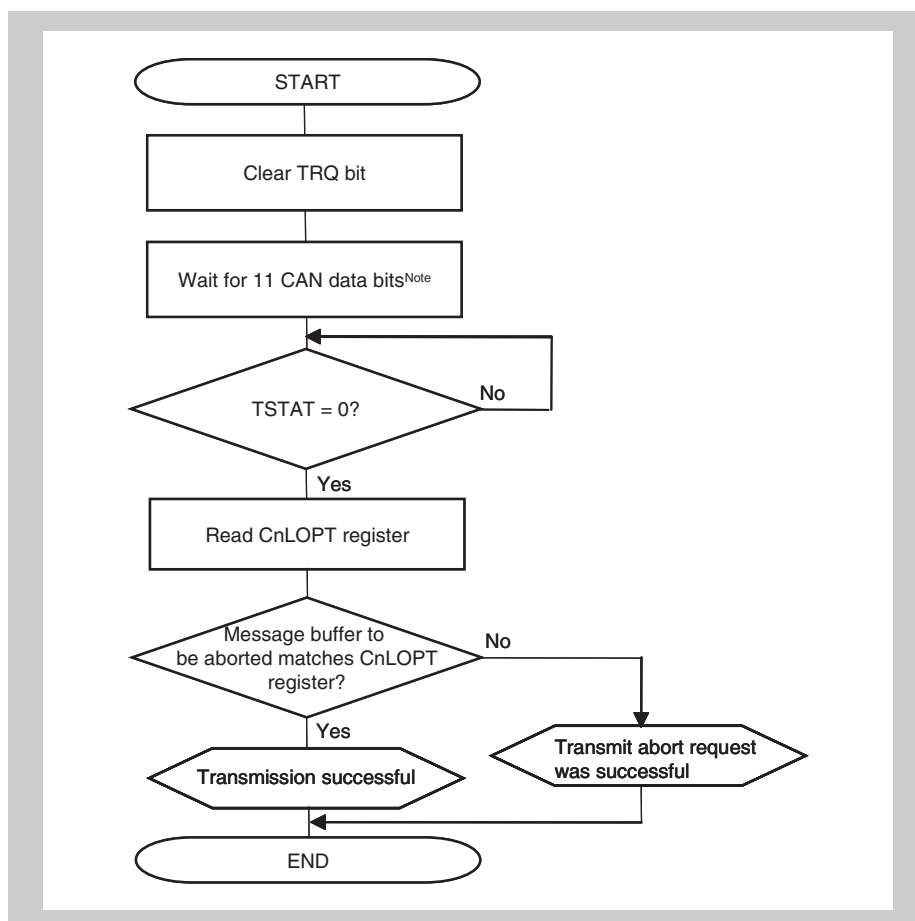
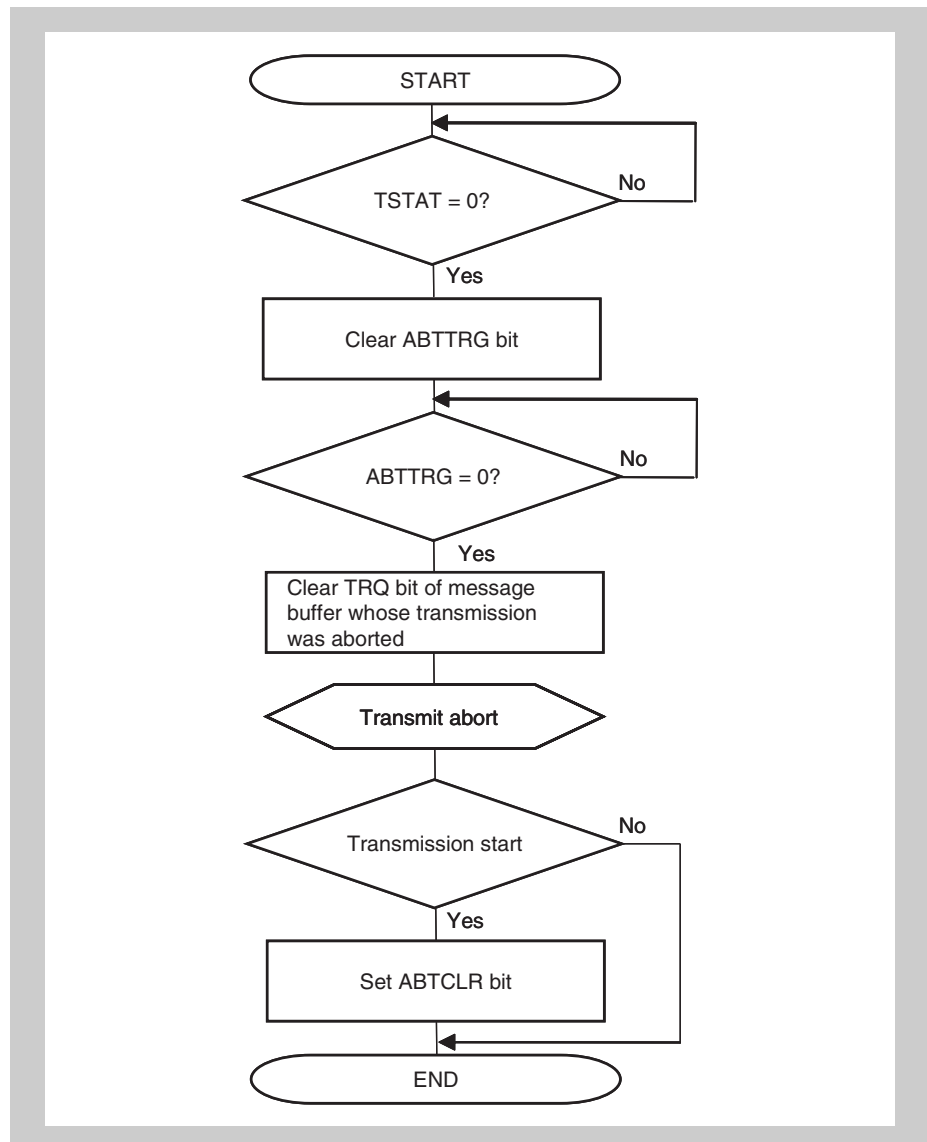
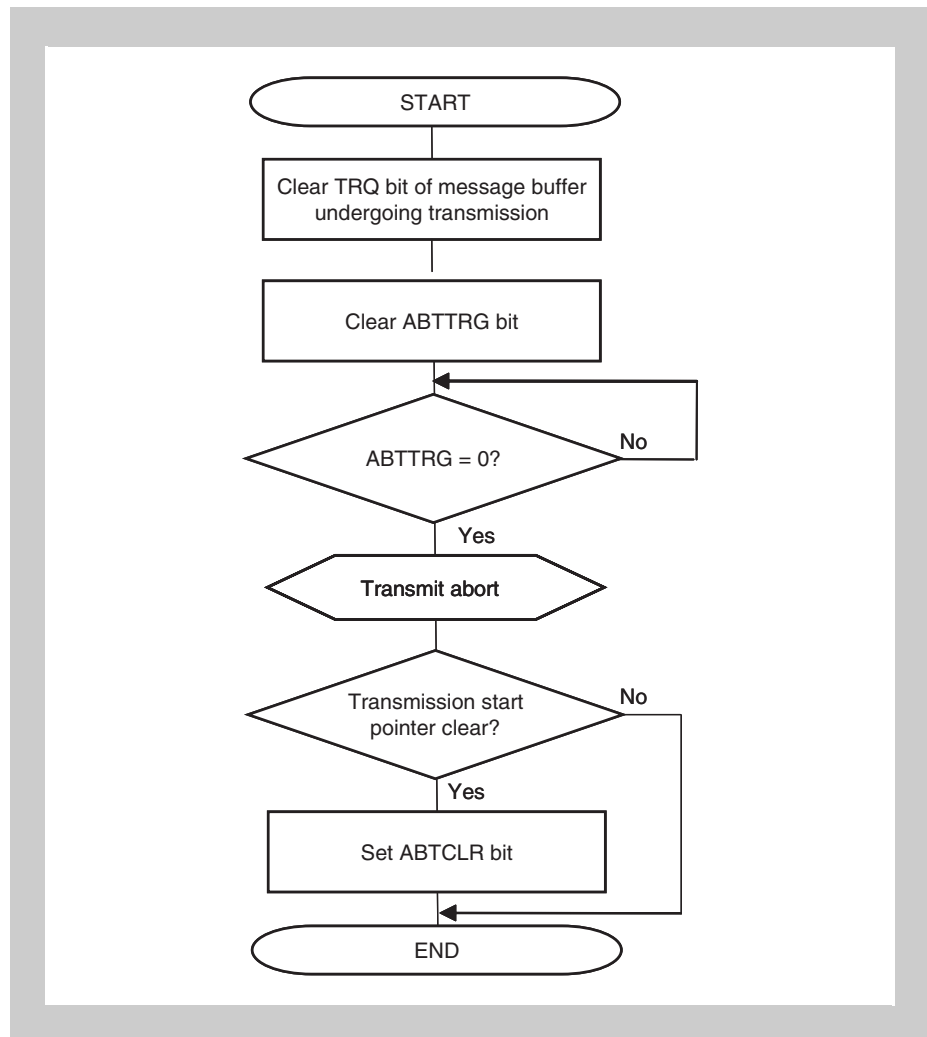

Figure 18-45 Transmission abort processing (except normal operation mode with ABT)
Figure 18-47 Transmission abort processing (normal operation mode with ABT)
Figure 18-48 ABT transmission request abort processing (normal operation mode with ABT)
Figure 18-47 shows the processing to skip resumption of transmitting a message that was stopped when transmission of an ABT message buffer was aborted.
2. Make a CAN sleep mode/CAN stop mode transition request after the ABTTRG bit is cleared (after ABT mode is aborted) following the procedure shown in *Figure 18-47* or *Figure 18-48*. When clearing a transmission request in an area other than the ABT area, follow the procedure shown in *Figure 18-45* on page 647.
Figure 18-48 shows the processing to not skip resumption of transmitting a message that was stopped when transmission of an ABT message buffer was aborted.
2. Make a CAN sleep mode/CAN stop mode request after the ABTTRG bit is cleared (after ABT mode is stopped) following the procedure shown in *Figure 18-47* or *Figure 18-48*. When clearing a transmission request in an area other than the ABT area, follow the procedure shown in *Figure 18-45* on page 647.
Caution To abort transmission before making a request for the CAN sleep mode, perform processing according to *Figure 18-45 on page 647* and *Figure 18-47 on page 649*.